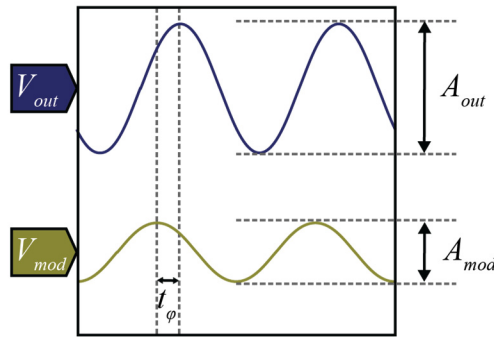

Fig. 5: Example scope waveforms with two probes measuring  $V_{out}$  and  $V_{mod}$ , with amplitudes and time differences shown.
- Using the cursors and/or measurement functions of the scope, measure the amplitude of the sinusoid on the output voltage, the amplitude of the sinusoid on  $V_{mod}$ , and the time difference between the maximum values of both ( $A_{out}$ ,  $A_{mod}$ , and  $t_\phi$ , respectively, in Fig. 5). Record these values, as well as the frequency of the perturbation that you set in the function generator.